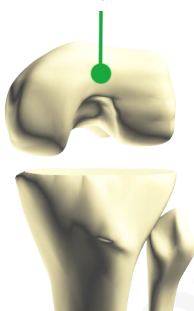

Figure1-1
Utilize the intramedullary (IM) drill to penetrate the femoral canal. Place the canal entry location 1cm above the insertion of the posterior cruciate ligament and slightly medial in the intercondylar notch (Figure 1-1).